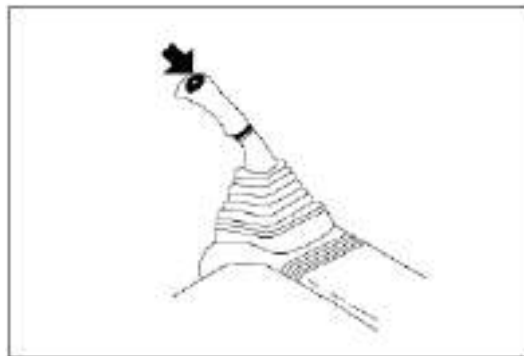

Figure 3-71 Powerful digging switches
The powerful digging switch (1) on the top of the right lever shown in Figure 3-71 is increasing digging force. Press the switch and the powerful digging icon at the upper area of the display will show the weightlifter lifting the barbell. Under P or E mode and when the speed is greater than 1650 rpm, the machine